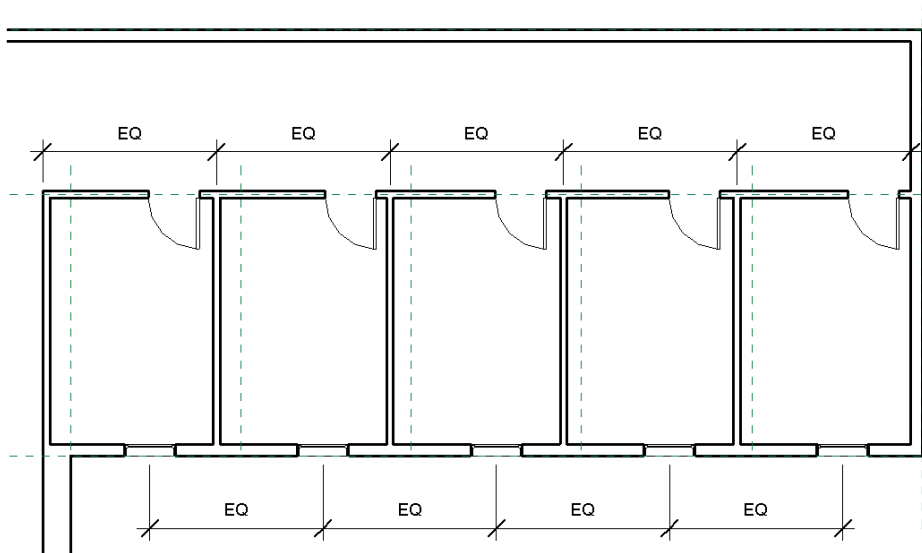

FIGURE 1.19 Windows equally spaced
18. Move your mouse down below the wall, and click to place the dimension string in the view. Click the EQ button that appears. Press Esc to exit the Dimension tool. Your result should resemble Figure 1.19.